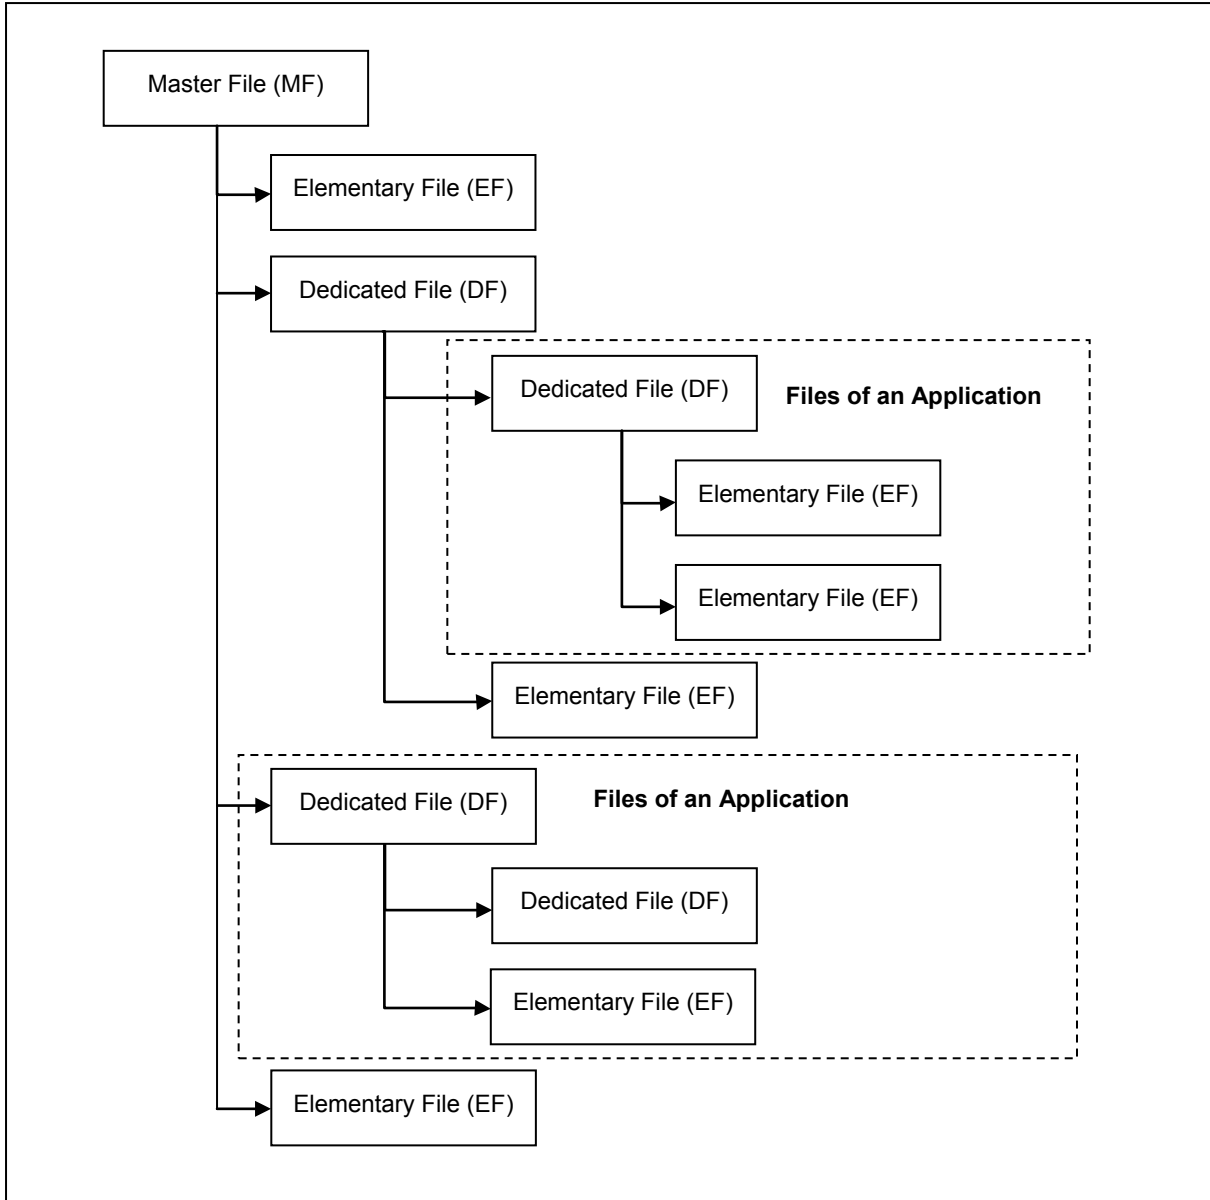

Figure 2: File System Hierarchy
ACOS5-64 is compliant with ISO 7816-4 file system and structure. The file system is very similar to that of the modern computer operating system. The root directory of the file system is the **Master File (MF)**. Each application or group of data files in the card may be contained in a directory called a **Dedicated File (DF)**. Each DF and MF may store data in their respective **Elementary Files (EF)**, as shown in **Figure 2**.